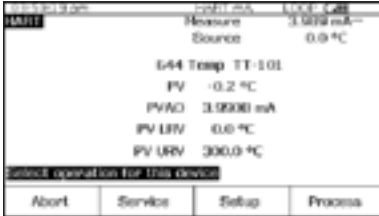

Figure 19.
1. Power on the Fluke 754 Calibrator. Press the **HART** key and the **Loop Power** softkey (if loop power is not already supplied). Press **ENTER** until any device warnings are cleared and the basic HART information is displayed (Figure 19).